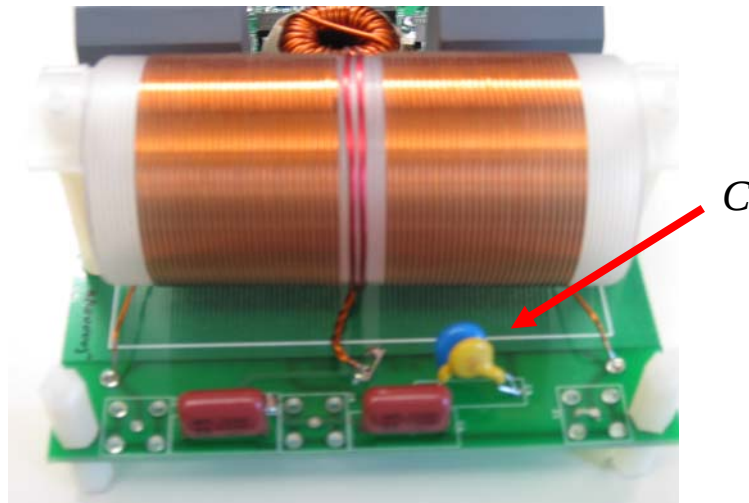

Fig. 6-1. The capacitor C affecting the output resonant frequency (make sure it is rated for at least 3 kV).
3. Open the top cover using a screwdriver. Check the value of the capacitor C on the PCB (see Fig. 6-1). Recalculate the new value of C_{new} based on the formula below (followed from the formula above) so the new frequency F_{new} is in the desired range: